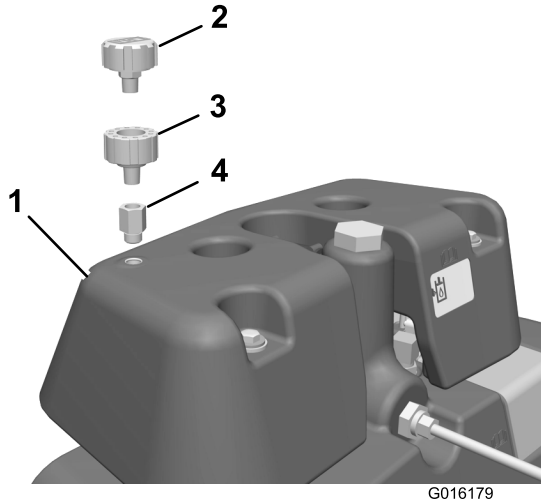

Figure 9
34. Install the hydraulic fitting, breather adapter, and breather on the leak detector tank as shown in (Figure 9).